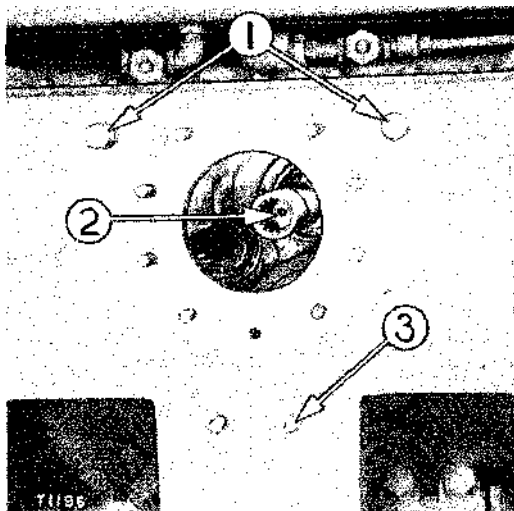

FIGURE 2—INSTALLING
(See figure 2.)
B. D7 Tractor Adapter Group Installation, Nos. 25 and 23 Cable Controls, (See figure 2.)
- (1) Install coupling (2) as described in paragraph 2A (1).
- (2) Remove the corks from the holes and install studs (1).
- (3) The studs which fasten the steering clutch case rear cover will be used to hold the cable control and studs (3) will not be used.
C. D6 Tractor Adapter Group Installation, Nos. 25 and 23 Cable Controls. (See figures 2 and 3)